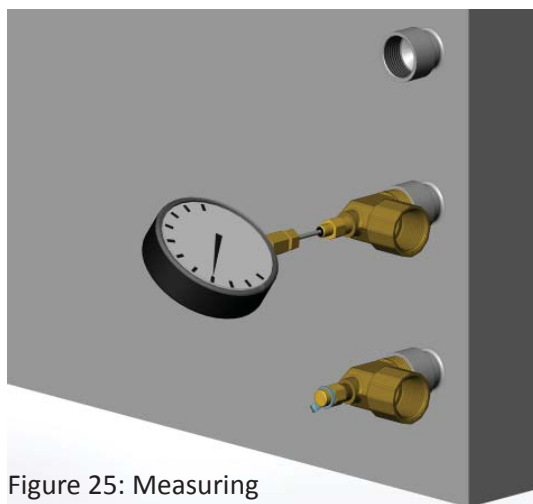

Figure 25: Measuring pressure drop
It is important to choose a testing company that can provide a water quality analysis that is pertinent to HVAC applications. Figure 25 shows an example report from Rocky Research in Boulder City, Nevada (<http://rockyresearch.com>, 702-293-0851).
1. Measure the pressure drop across the heat pump's heat exchanger via the P/T ports located at the water connections of the unit (Figure 25). Use a single large dial face pressure gauge to allow for more precise measurement.